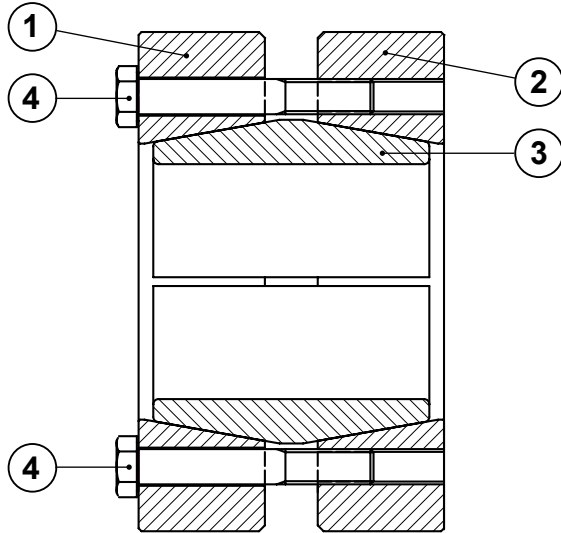

Figure 1
(Refer to Figure 1)
DO NOT completely remove locking screws (4) before outer collars (1, 2) are disengaged from inner ring (3). A sudden release of the outer collars involves high separating forces and could result in permanent injury or death. Be certain that outer collars are disengaged from inner ring before completely removing locking screws. **Refer to Figure 1.**